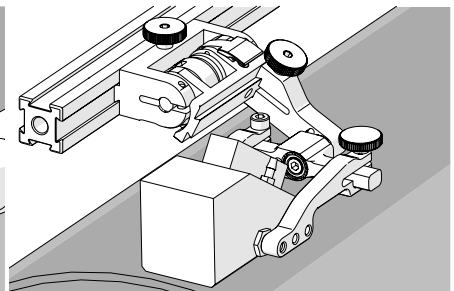

Fig. 45 - Spring loaded scan position
4. Gently lower the probe holder and wedge to the scanning surface (Fig. 45).